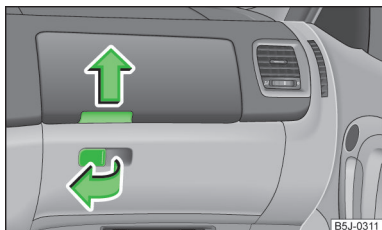

Fig. 81
- Pull the cover handle in the direction of the arrow » Fig. 81 and fold down the cover.